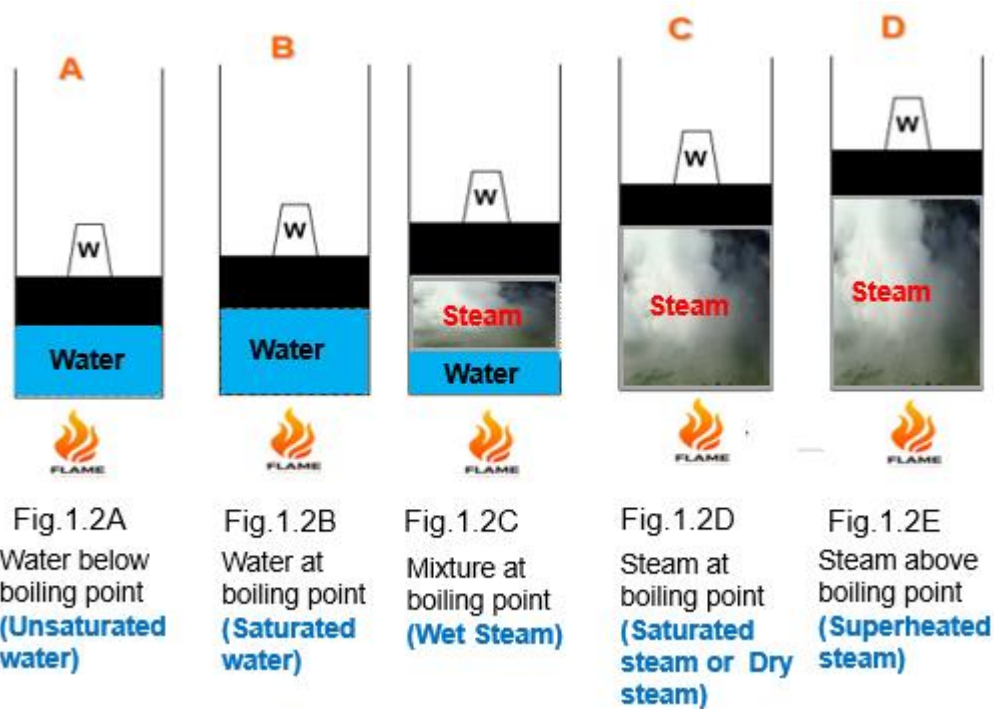

Fig. 1.2: Formation of Steam
The action of heat in the formation of steam from water is illustrated in the Fig.1.2 shown below. As the steam is continuously generated, its pressure gradually increases and is supplied from the boilers to the engines or turbines at constant pressure. To know the values of the various properties of steam at a particular pressure, a steam generation experiment is conducted by heating water from  $0^{\circ}\text{C}$  at a given constant pressure. Since the steam is generated at constant pressure, the amount of heat energy supplied to convert the water into steam will be equal to its enthalpy.
When this water is heated at constant pressure, its temperature rises till the boiling point is reached. When the boiling point of water is reached there will be a slight increase in the volume of water as shown in Fig. 1.2 (B). The temperature at which the water boils depends on the pressure acting on it. This temperature is called as **saturation temperature** and denoted as “ $T_s$ ”. The heating of water from 0°C to its saturation temperature is indicated by inclined line AB in
Further addition of heat, initiates the evaporation of water while the temperature remains constant at the saturation temperature  $T_{sat}$  because at the saturation temperature water is saturated with heat and any further heat addition will only change the phase from the liquid to the gaseous phase. This evaporation continues at the same saturation temperature  $T_{sat}$  until the whole of the water is completely converted into dry steam as shown in Fig. 1.2(D). This constant pressure and constant temperature heat addition process is represented by the horizontal line BC on the temperature- enthalpy graph.
On heating the steam further at the same constant pressure, its temperature increases beyond the saturation temperature  $T_{sat}$ . The temperature of the steam above the saturation temperature at a given pressure is called *superheated temperature*  $T_{sup}$ . During this process of heating, the dry steam will be heated from its dry state, and this process of heating is called *superheating*. The steam when superheated is called *superheated steam*. This superheating is depicted in Fig. 1.2(E) and is represented by the inclined line CD on the temperature- enthalpy graph.
When the water is heated beyond the saturation state at constant pressure it starts evaporating. This evaporation process depicted in Fig. 1.2(C) is not instantaneous and during the process